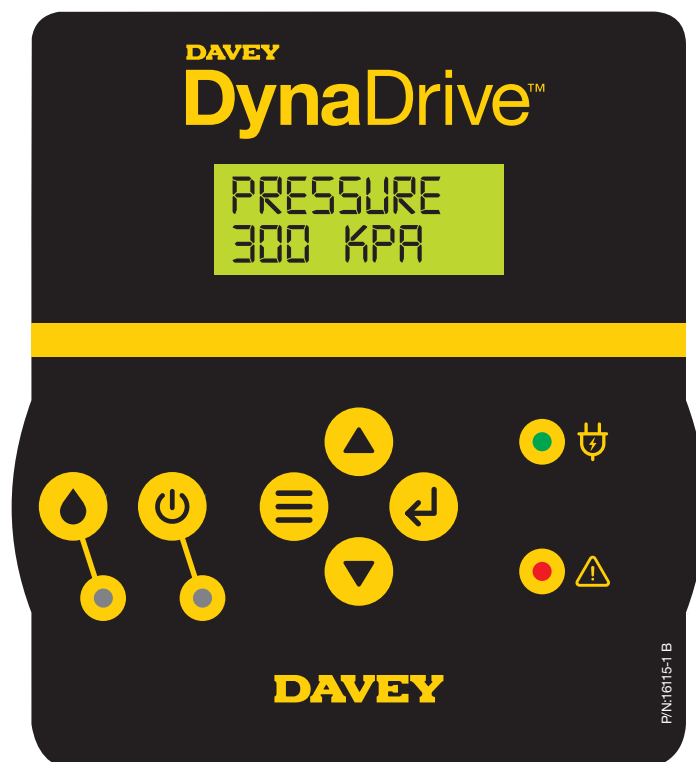

Figure 6.11
- To change the set pressure, use the  **Menu up button** or  **Menu down button**. Pressure changes are in multiples of 10kPa for DD60-10(CE) and DD90-11(CE) models, and 5psi for NPT model variants.
- Once you've reached your new set point, see figure 6.11;